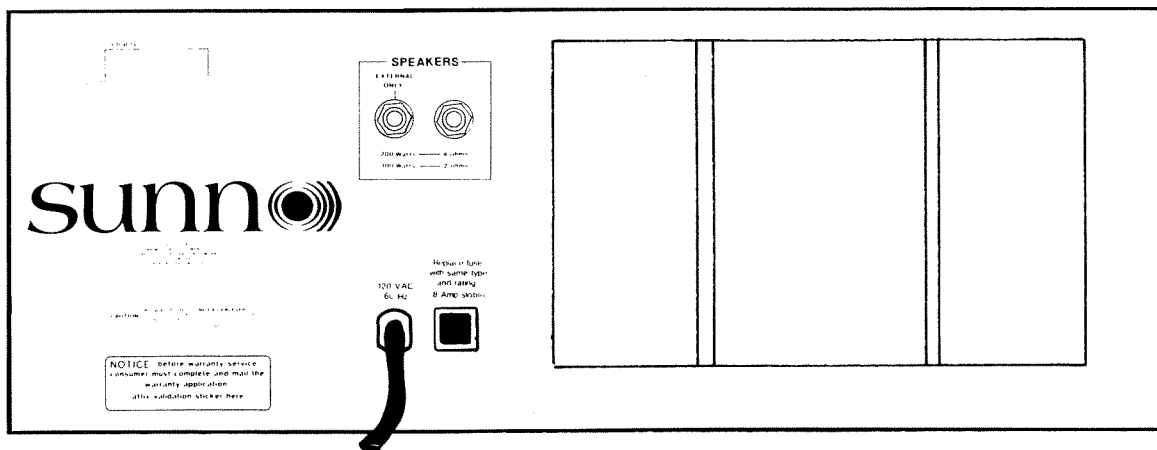

FIGURE 3
3. BACK PANEL JACKS, FUSE, POWER CORD AND HEATSINK. For reference, the back panel connectors are illustrated in **Figure 3**.